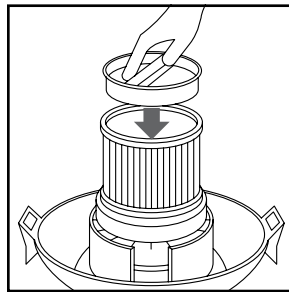

FIGURE 11
16. Place the filter retainer into the top of the cartridge filter. (**FIGURE 11**)